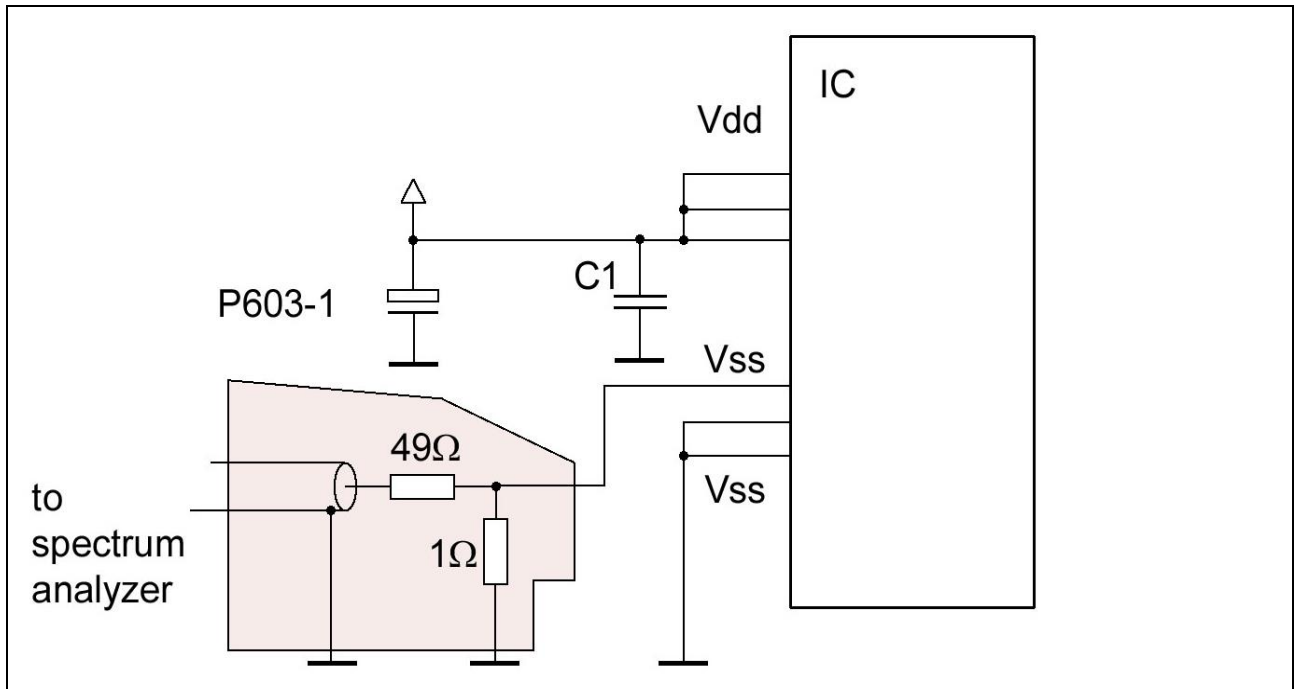

Figure 6: P603-1, current measurement on a single Vss pin.
2. Current measurement (P603-1) on a single Vss pin, **Figure 6**